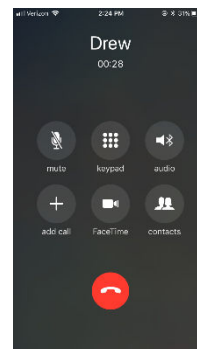

Figure 53.
3. Once the phone begins to ring, the source display will indicate that the Processors are the active audio source (Figure 53).